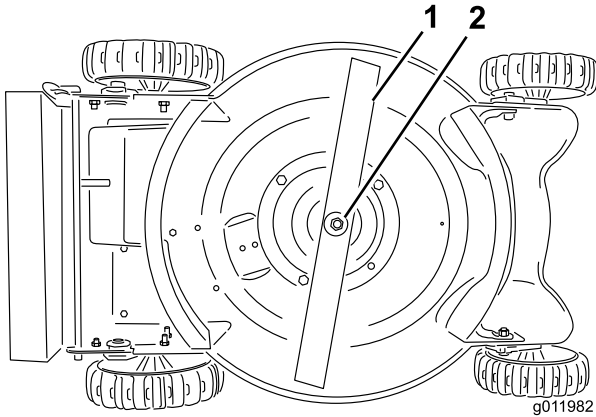

Figure 14
4. Remove the blade by turning the blade bolt counterclockwise (Figure 14).